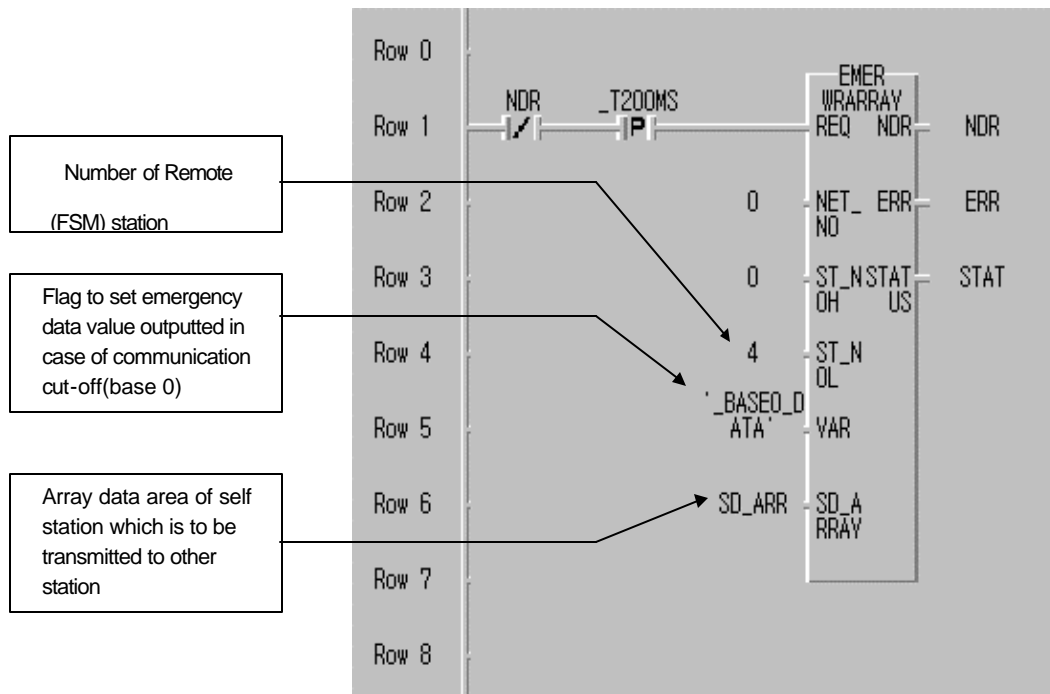

Fig. 6.6.7(D) Ex. of emergency data output program using _BASEx_DATA flag
Fig. 6.6.7(D) shows an example that transmits user-defined emergency data to remote station using `_BASEx_DATA` of FSM communication flag by GMWIN program. `WRARRAY` is used for *function block* as shown in Fig. 6.6.7(D). `NET_NO` indicates slot location that communication module(FMM) that this communication block is executed is mounted. Set `ST_NOH` to '0' and enter station number of remote module into `ST_NOL`. Use '`_BASE0_DATA`' flag(if remote 0 base) for variable identifier(VAR) to be transmitted to other station, and set `SD_ARR` that array data of self station to be transmitted to other station(station 04) to `SD_ARRAY`.